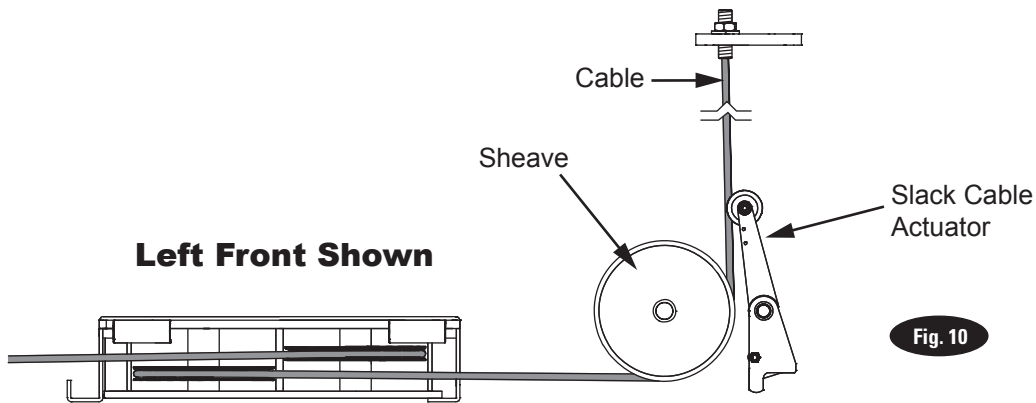
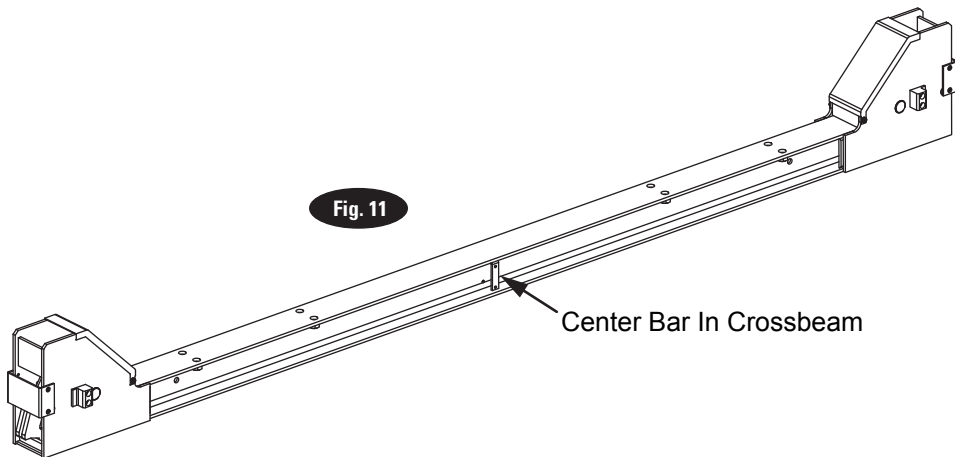

Fig. 10
Fig. 11
D.) Being careful not to cross or pinch cables, install runway to crossbeams as shown, Fig. 9 & Fig. 10.
bar, Fig. 11. Run cables up each column keeping the cables on the inside of the slack cable actuators, Fig. 10. You will need to remove the Sheave Pins, Fig. 9 and Sheave, Fig. 10 in order to get the cable routed properly. Once routed, re-install sheaves and spacers.